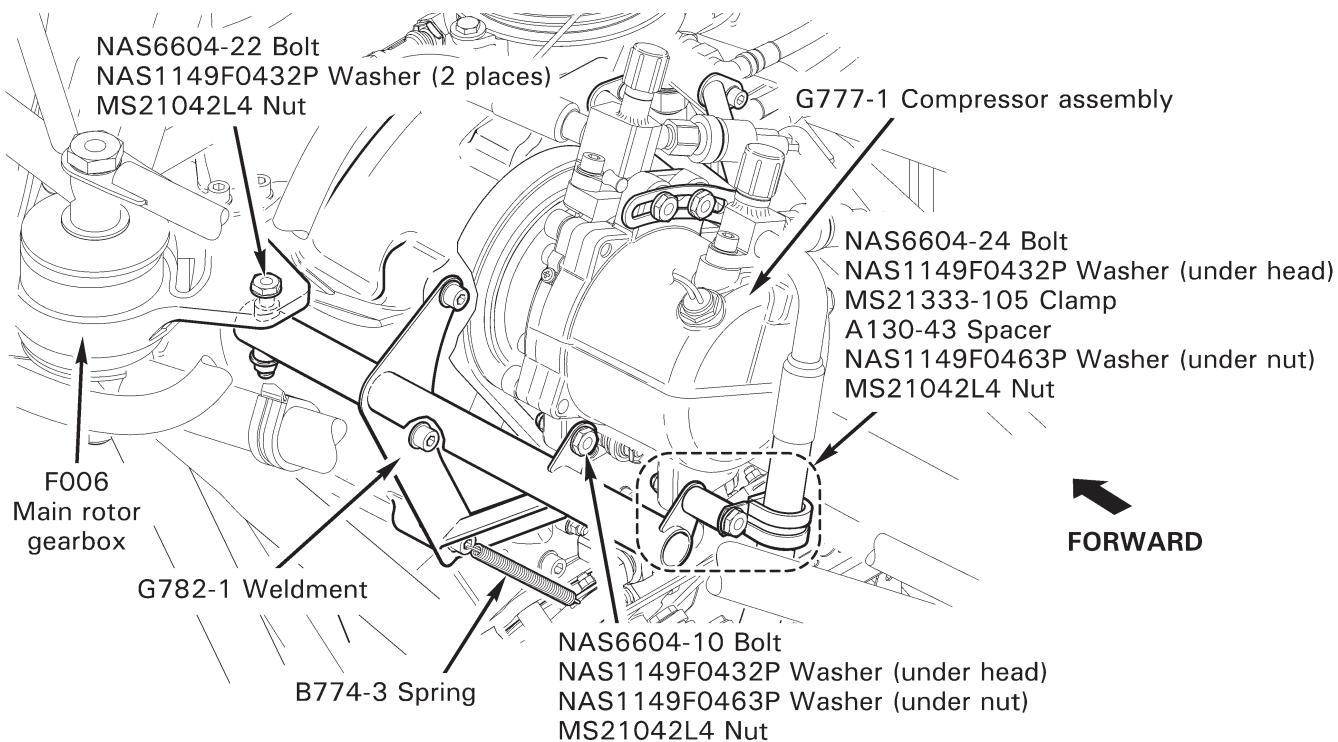

FIGURE 1-1 ASSEMBLY INSTRUCTIONS FOR R66 HELICOPTER CRATED FOR EXPORT
- a. Refer to Figure 1-1. Remove shipping supports (ty-raps, foam, tape, etc.) from G777-1 compressor assembly. Install hardware securing G782-1 mount weldment to main rotor gearbox. Standard torque hardware per § 20-32 and torque stripe per Figure 5-1. Hook B774-3 spring in drilled hole of NAS1352-4H14 screw. Verify security.
- b. Refer to Figures 1-1 and 1-2. Verify B173-5 v-belt is in good condition. Fit belt around G779-1 pulley and compressor pulley, and install hardware securing compressor to G782-1 mount weldment. Standard torque bolts per § 20-32.